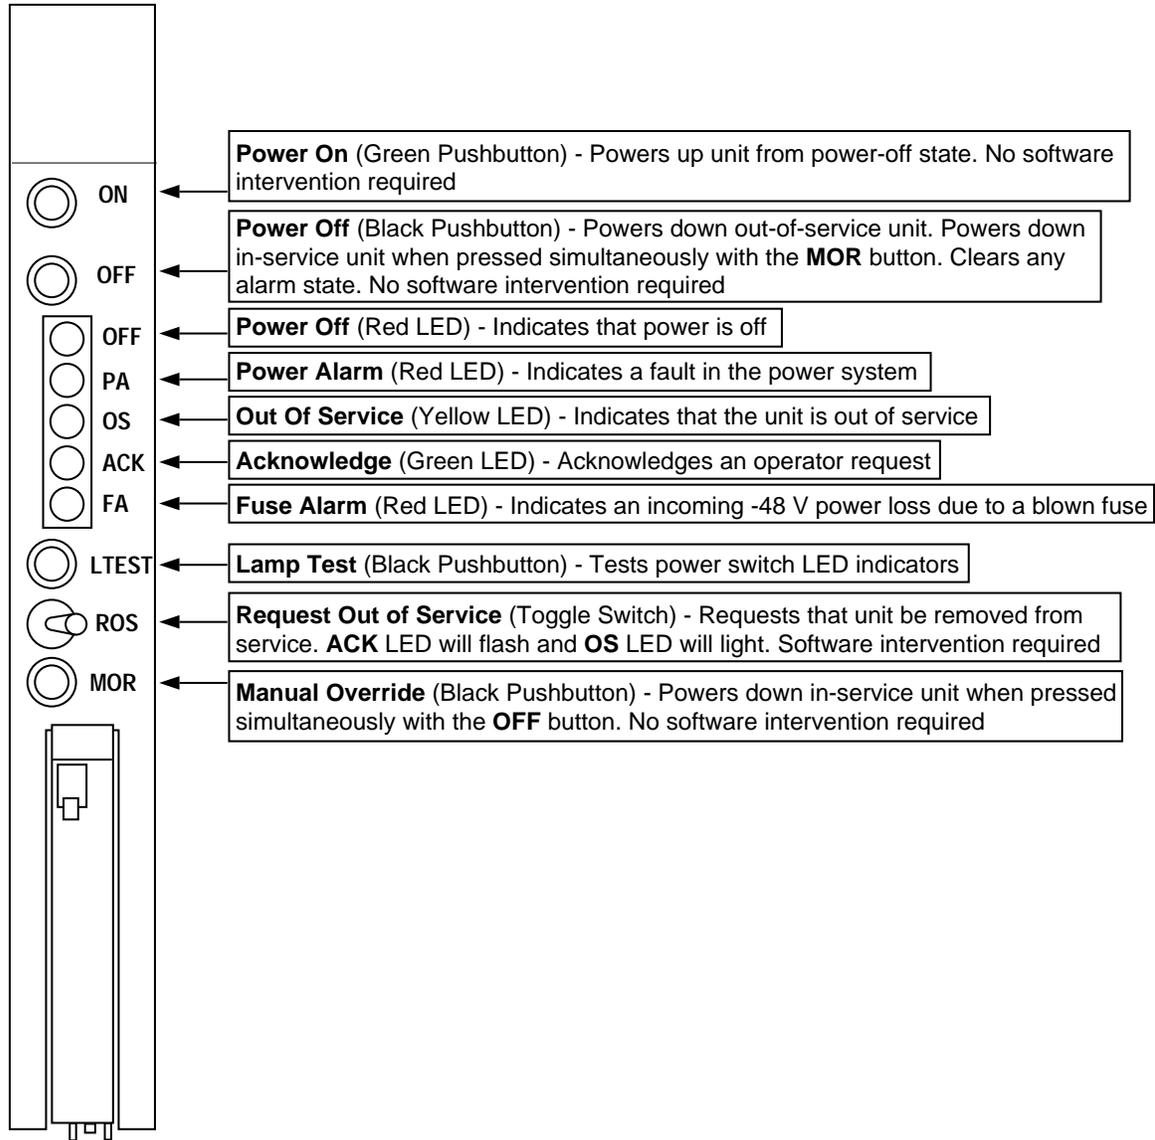

Figure 9. Power Circuit Pack Buttons and Lamps
- Power Circuit Pack Buttons and Lamps (Figure 9)